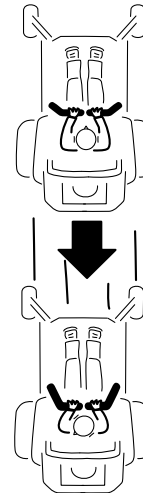

Figure 20
2. To go backward, look behind you and down as you slowly pull the motion control levers rearward (Figure 20).
To go straight, apply equal pressure to both motion control levers (Figure 20).